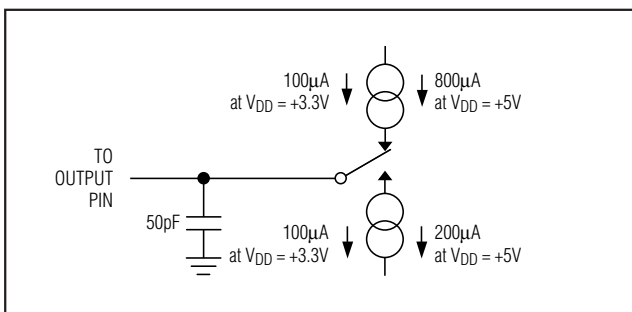

Figure 1. Load Circuit for Bus-Relinquish Time and VOL and VOH Levels
**Note 24:** Measured with the load circuit of Figure 1 and defined as the time required for the output to cross the VOL or VOH limits.
**Note 26:** Derived from the time taken by the data output to change 0.5V when loaded with the circuit of Figure 1. The number is then extrapolated back to remove effects of charging or discharging the 50pF capacitor. This ensures that the times quoted in the timing characteristics are true bus-relinquish times and are independent of external bus loading capacitances.